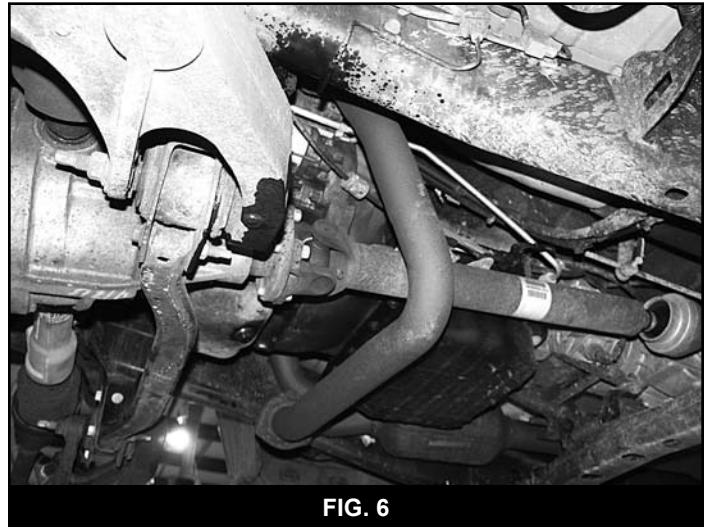

FIG. 6
25. Locate the exhaust crossover pipe. If the crossover pipe runs under the front driveshaft it must be modified (Fig 6). The pipe can either be completely removed or cut to clear the driveshaft at this time. The other option is to wire up the front drive shaft if traveling a very short distance to the exhaust shop. Note: Vehicles equipped with a crossover pipe that runs near the transfer case will not require an exhaust modification. Have the exhaust modifications completed by a quality exhaust shop when